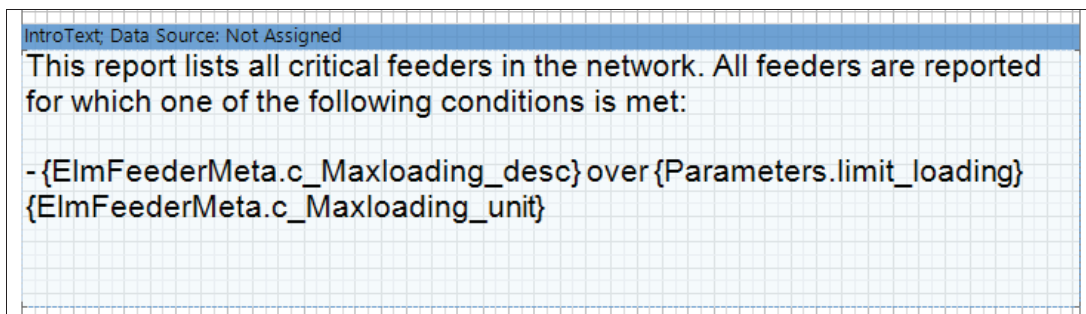

Figure 5.2: Report “Load Flow Analysis” - Part 2
- An example for the introductory text in the designer is shown in Figure 5.2.